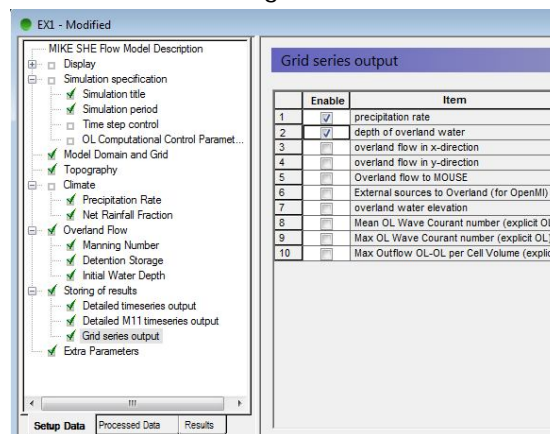

Figure 123: Grid series output
- Select 'Grid series outputs' node and Select (check) "Precipitation rate" and "Depth of overland water" as in Figure 123